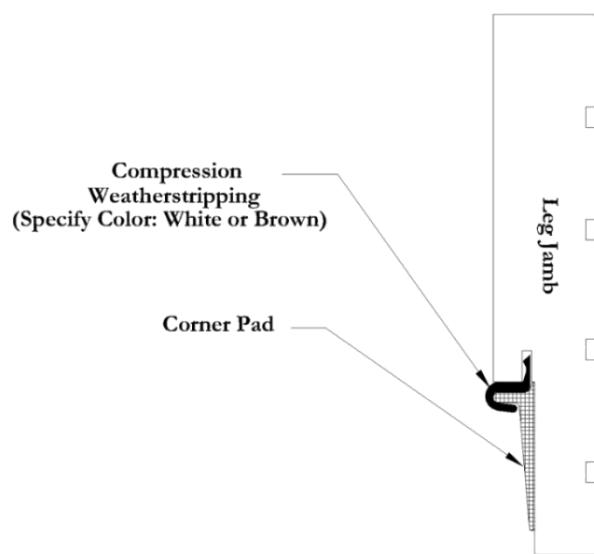

Figure 8
Step 3 – Install the corner pad (provided) to each jamb leg behind weather-stripping (See Figure 8) tight to the top of the sill